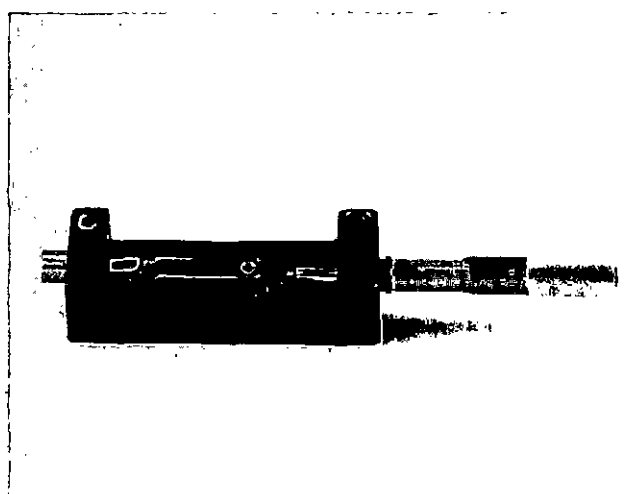

Fig. 1-18. Adjust The Length Of The Cutting Tool
9. Hold the tool against the hardened pad. Loosen the setscrew to let the pin in the cutting tool come out against the micrometer spindle, Fig. 1-18. Tighten the setscrew.